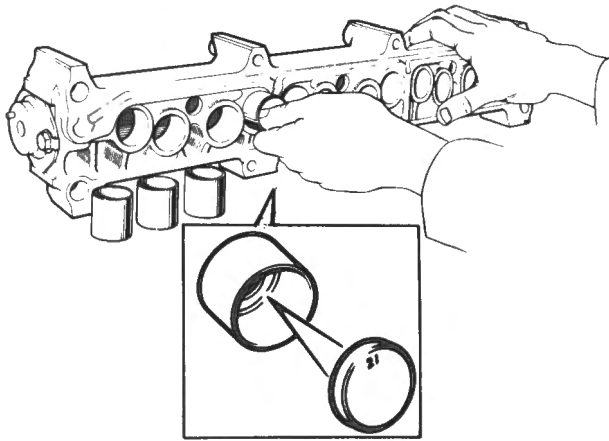

Fig. E-27
- 3 Lay the carrier on its side, lubricate the followers and fit them to their respective bores. Ref. Fig. E-27.